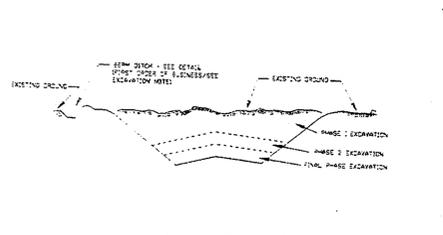

Figure 4 Incremental Stabilization - Cut G-20-6
- Construction sequence: Refer to Figure 4 (below).